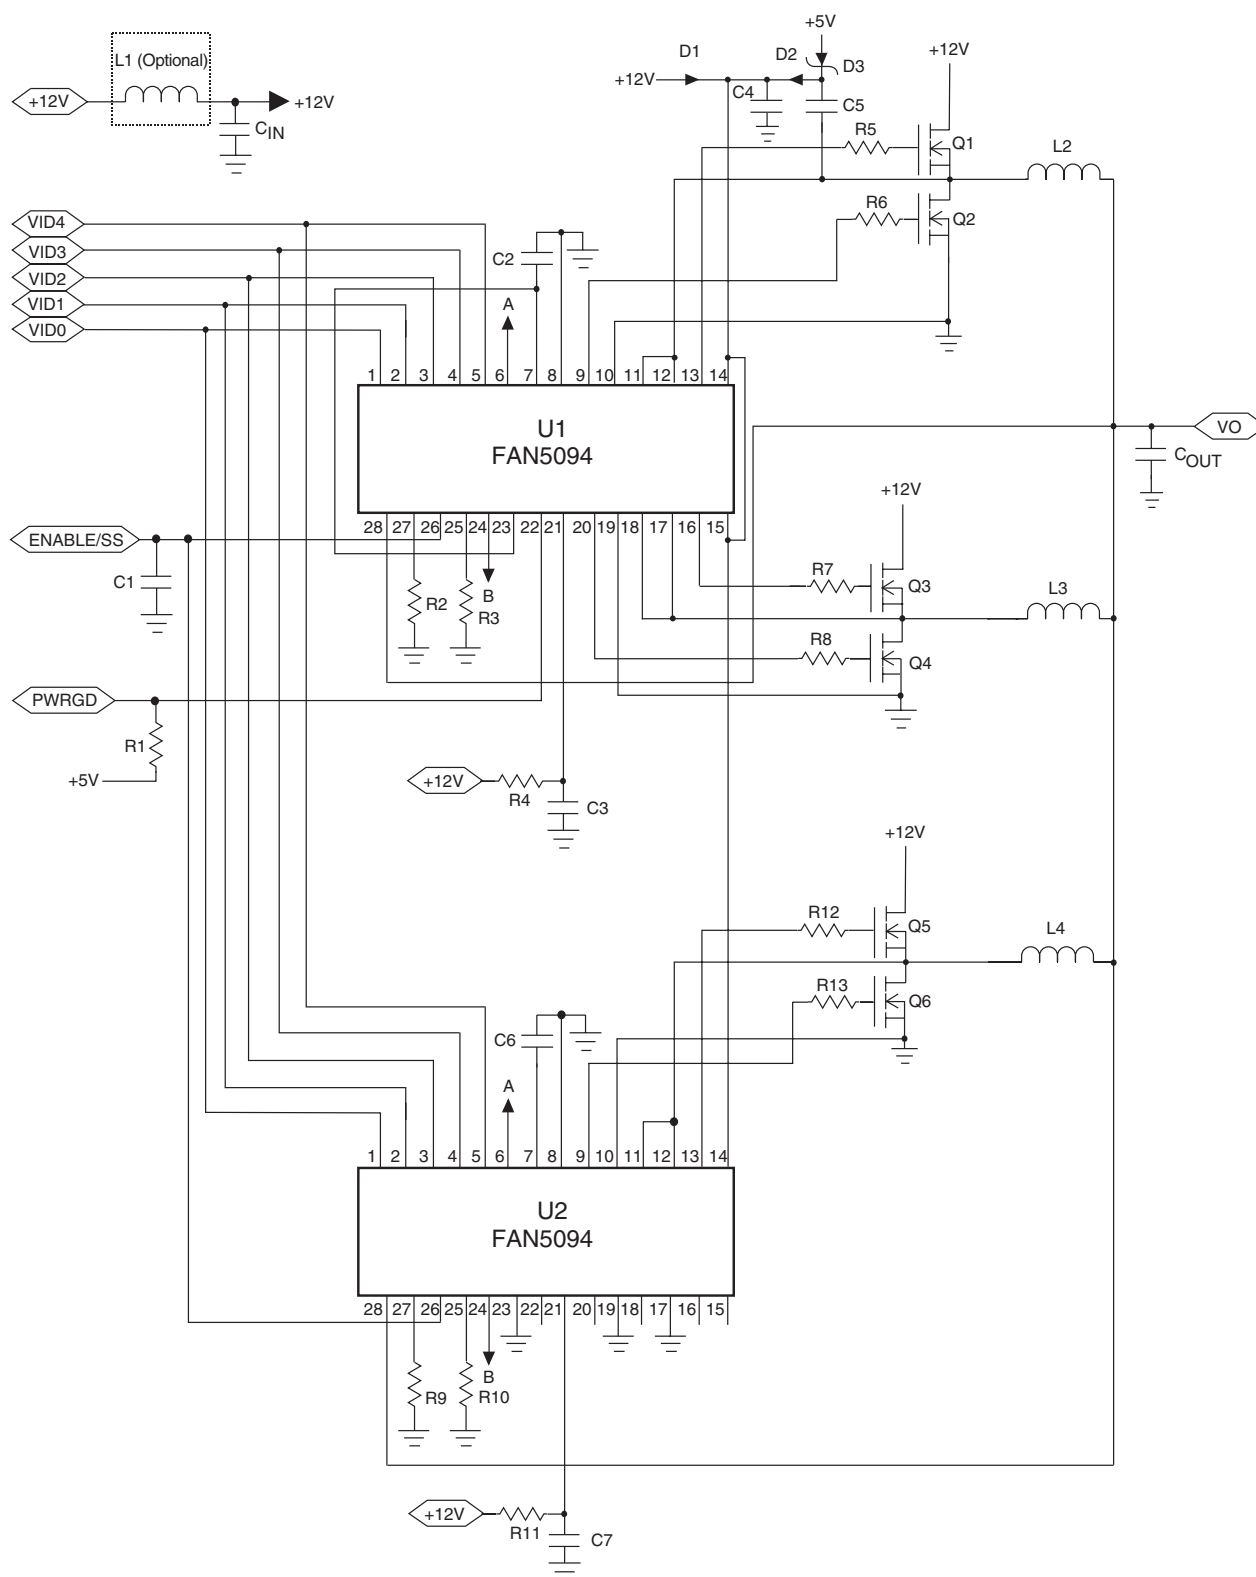

Figure 1. Three-Phase Application Circuit for 65A Willamette Processor
( $V_{CC} = 12V$ ,  $V_{OUT} = 1.500V$ , and  $T_A = +25^{\circ}C$  using circuit in Figure 1, unless otherwise noted.)
( $V_{CC} = 12V$ , and  $T_A = +25^{\circ}C$  using circuit in Figure 1 , unless otherwise noted.)
**Table 2. FAN5094 Application Bill of Materials for Figure 1**
The FAN5094 contains four high current output drivers that utilize MOSFETs in a push-pull configuration. The drivers for the high-side MOSFETs use the BOOT pin for input power and the SW pin for return. The drivers for the low-side MOSFETs use the VCC pin for input power and the PGND pin for return. Typically, the BOOT pin will use a charge pump as shown in Figures 1–2. Note that the BOOT and VCC pins are separated from the chip's internal power and ground, BYPASS and AGND, for switching noise immunity.